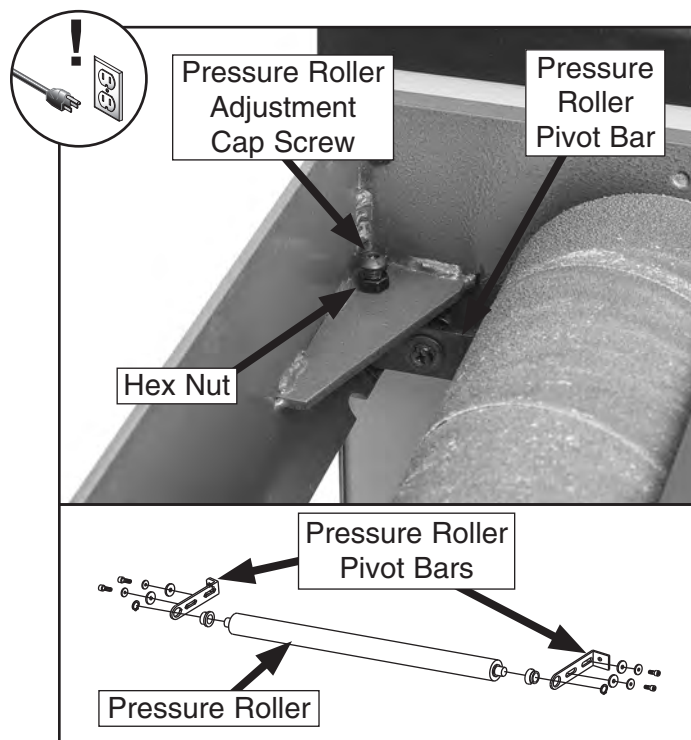

Figure 49. Front pressure roller adjustments and pressure roller overview.
2. Loosen hex nut securing adjustment cap screws on both ends of rear pressure roller shown in **Figure 49**.